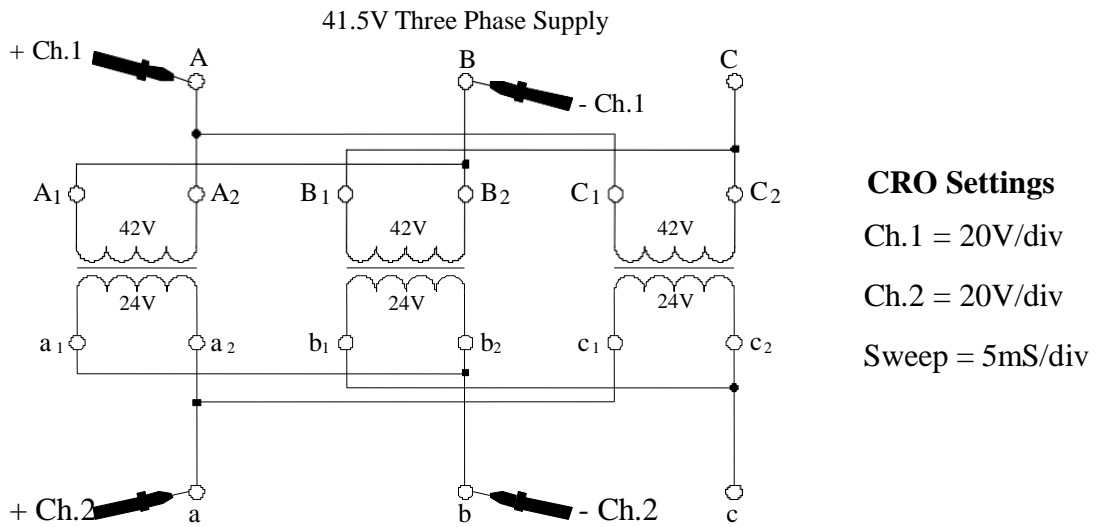

Figure 1
1. Connect the transformer in a Dd0 configuration as shown in figure 1.